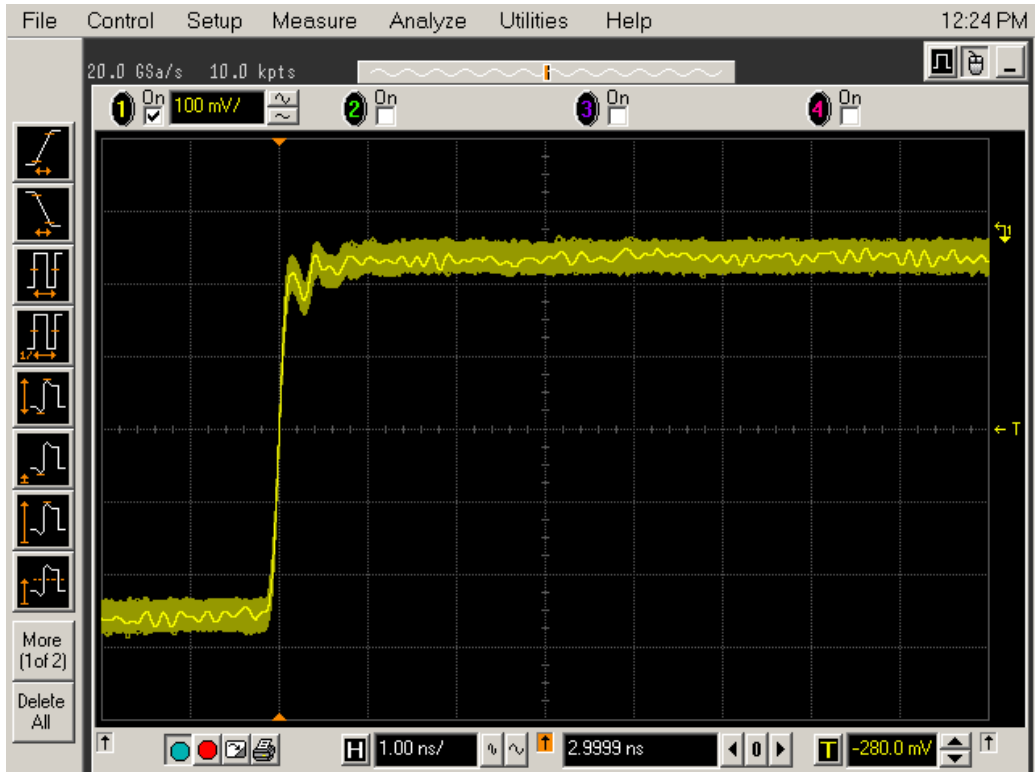

Figure 29 Good Connection Waveform Example
- 4 Set the horizontal position to approximately 3 ns. You should see a waveform similar to that in Figure 29 below.